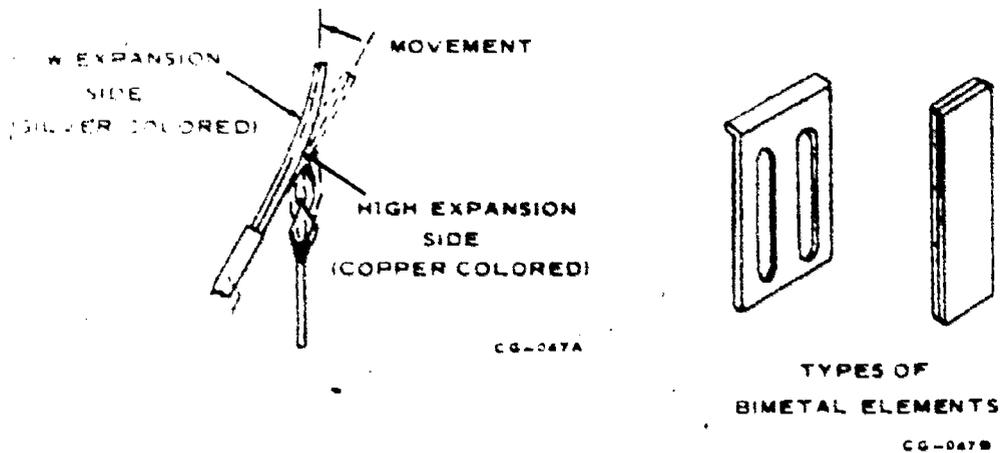

Figure 24
**Bimetal Elements.** Are two thin strips of dissimilar metal fused together to form a device which reliably changes its shape at a constant rate as its ambient temperature changes, figure 24. Because the two metals bonded into one piece expand and contract at vastly different rates, the measuring element bends as the temperature varies, thus translating temperature into motion. Brass is frequently used as the metal with the higher coefficient of expansion. It may be bonded to invar metal (a nickel steel alloy) which does not change dimensions in any direction to any significant degree as its temperature varies. When the ambient temperature rises, the bimetal strip bends toward the metal which makes little or no response to temperature. This unresponsive portion of the element provides the stability factor which makes bimetal strips usable as temperature measuring elements.